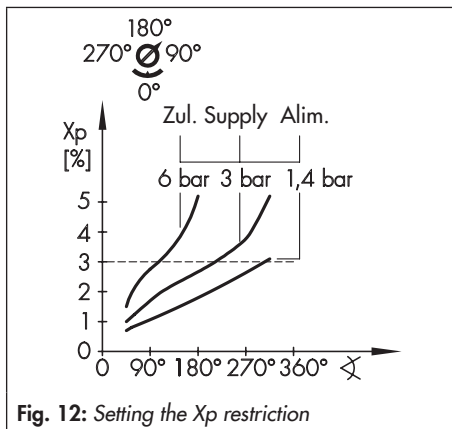

Fig. 12: Setting the Xp restriction
On setting the Xp restriction, observe the relationship with the supply air pressure as indicated in Fig. 12. The preset value of Xp should be approximately 3 %.
- ➔ The adjustment range of the Xp restriction is restricted by the pointer and stop to one turn (Fig. 12). Do not remove the pointer!